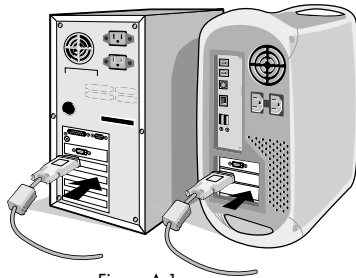

Figure A.1
2. For the PC or MAC with DVI digital output: Connect the DVI signal cable to the connector of the display card in your system (Figure A.1). Tighten all screws.